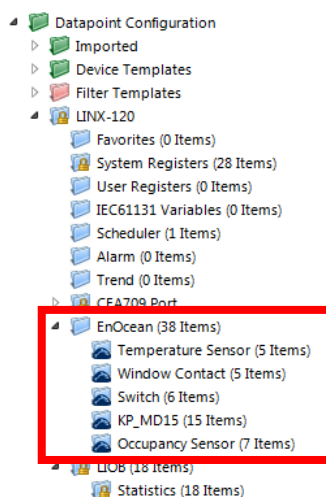

Figure 160: Data Point Manager with EnOcean device folders.
- The folder list (Figure 160),